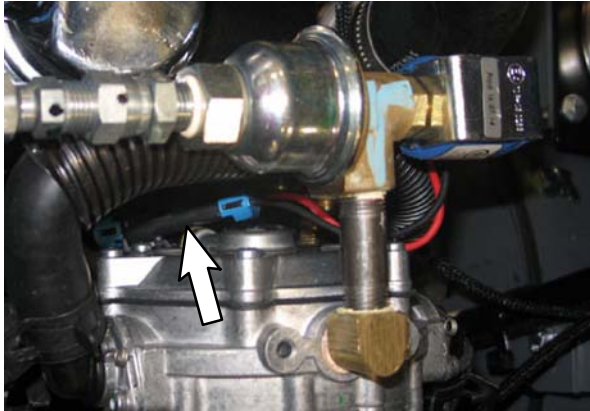

FIG. 7
1. Disconnect the main harness from the lock off assembly. (Fig. 7)